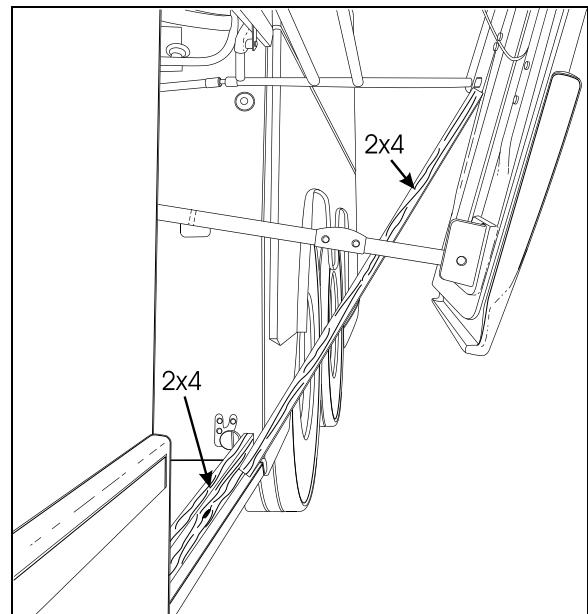

FIGURE 78: PANTOGRAPH ADJUSTMENT
3. Install another piece of 2x4 between the first piece and the bottom of the pivot of the lowest (or shortest) pantograph arm, (Figure 78).